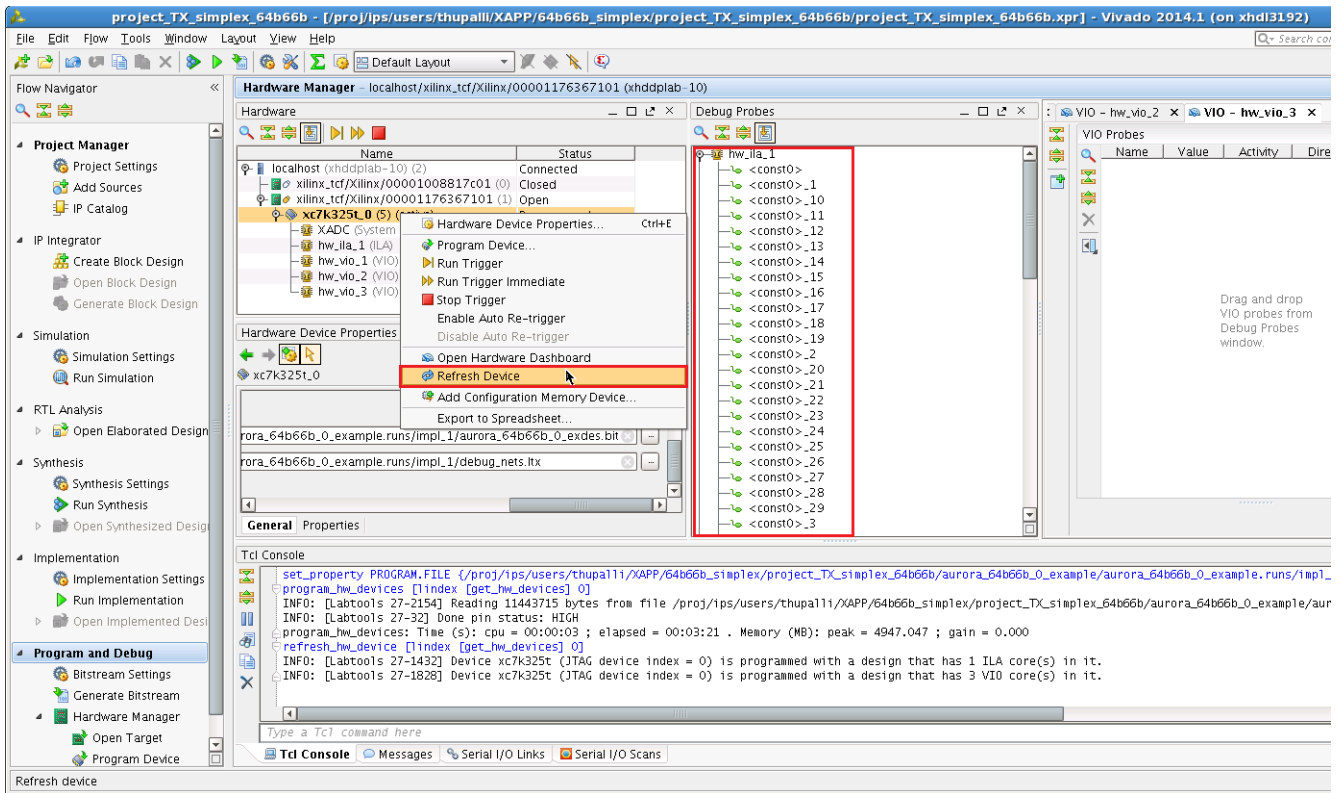

Figure 23: Refresh Device
13. When programming completes, right-click the programmed target device in the Hardware list and select **Refresh Device** (Figure 23).